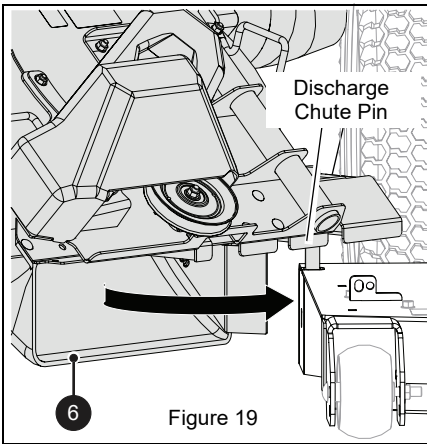

Figure 19
7. Insert discharge chute pin through mounting hole and position blower assembly (item 6) at discharge chute opening. See Figure 19.